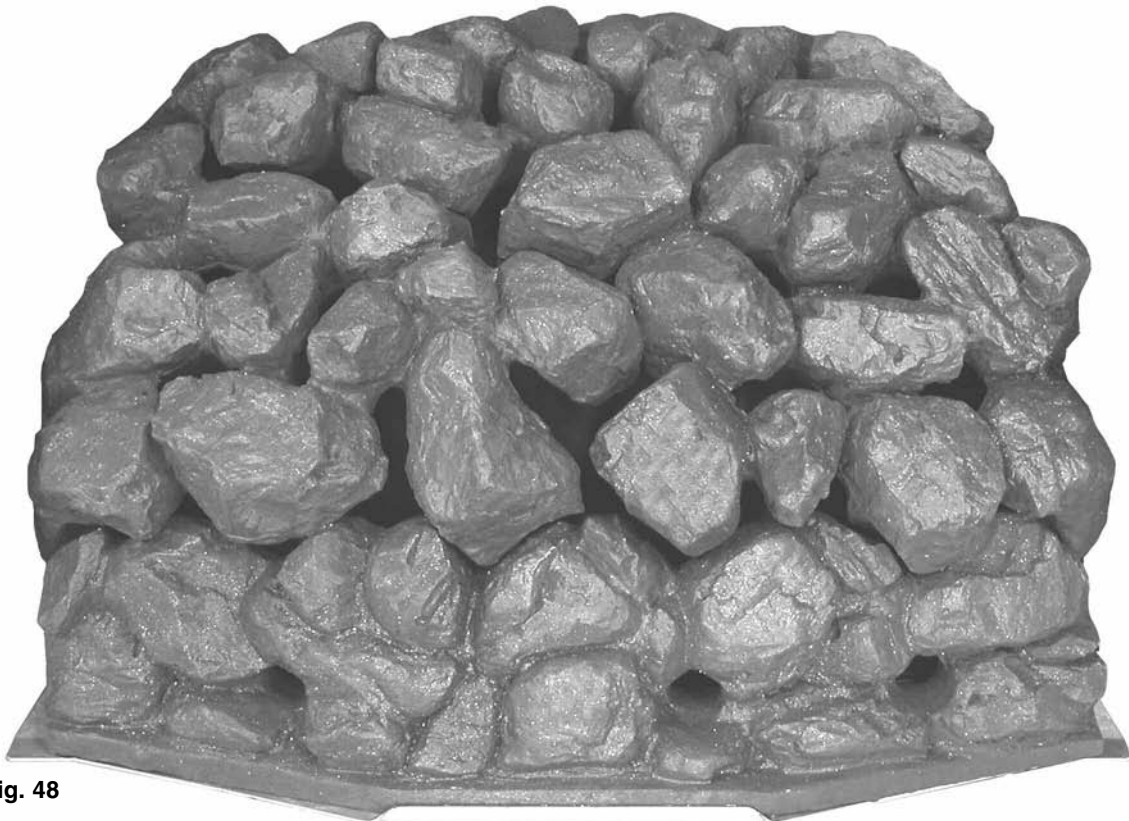

Fig. 48
5. Finally check that all the coal pieces are 'nested' together correctly (Fig. 48).